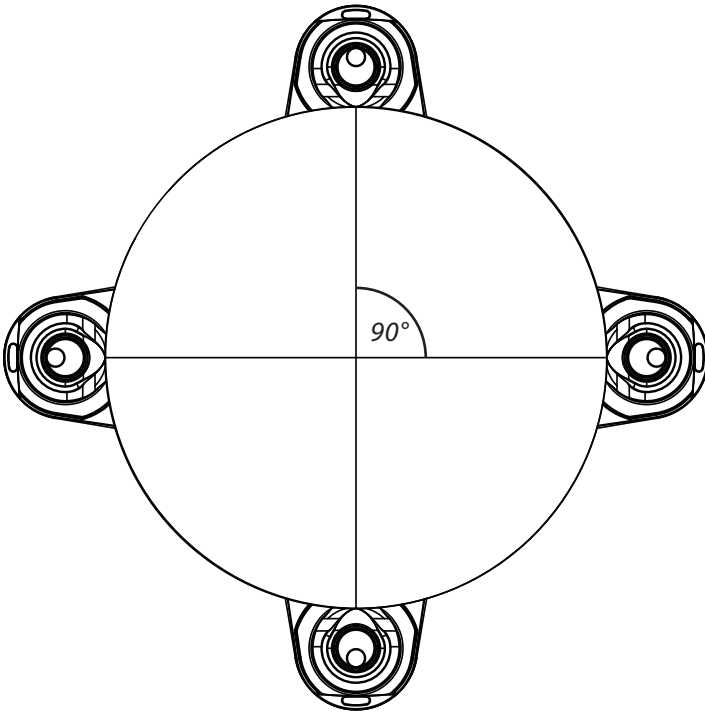

FIG. 4
Flip the Bucket (F) upside down and arrange the Caster assemblies evenly around the bottom edge [FIG. 4].